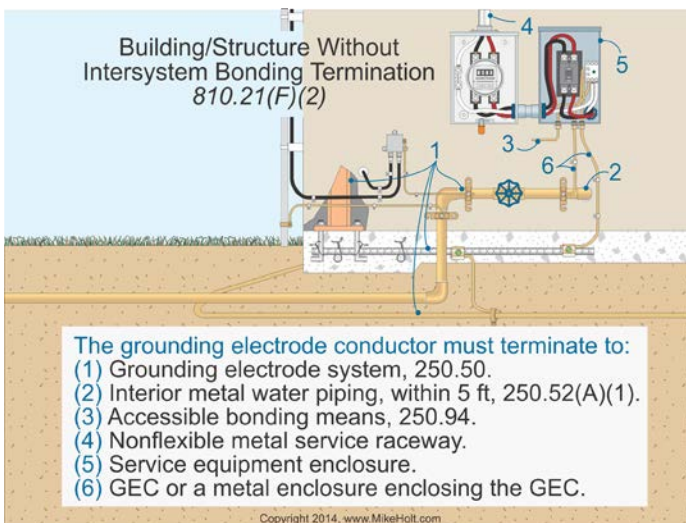

Figure 810-16
(2) In Buildings Without Intersystem Bonding Termination. The bonding conductor or grounding electrode conductor for the antenna mast and antenna discharge unit must terminate to the nearest accessible location on the following: Figure 810-16